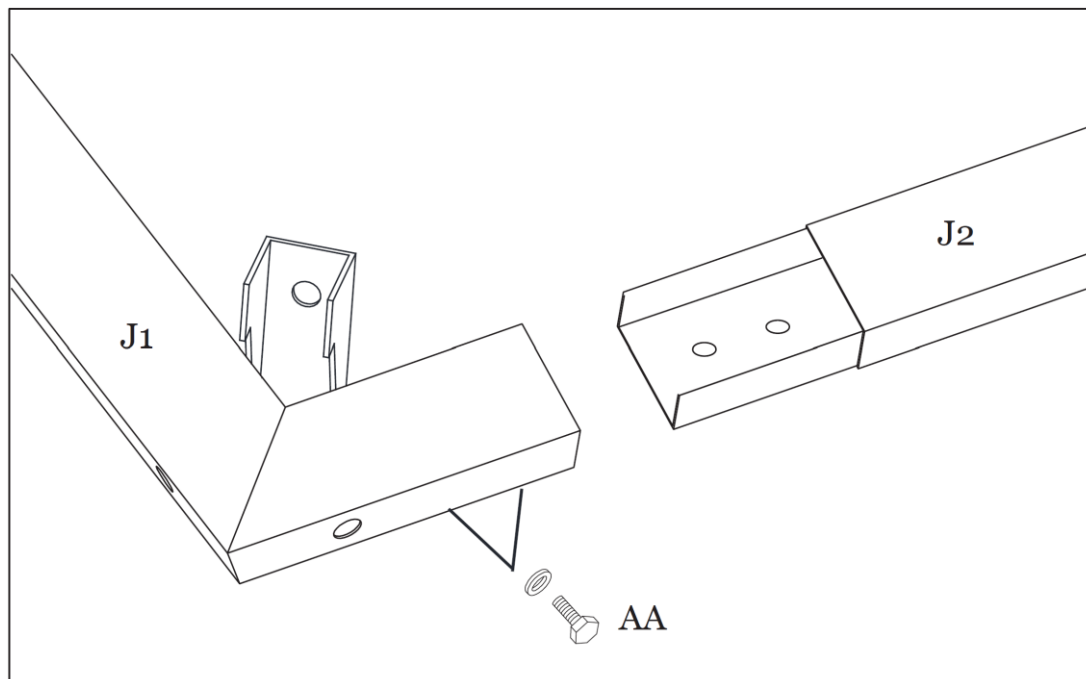
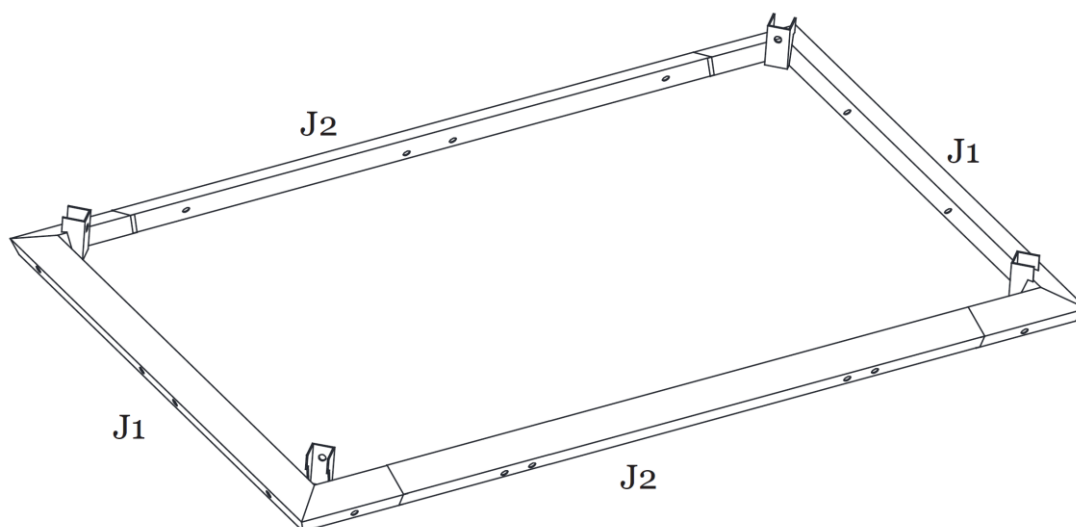

Figure 7-1
Figure 7-2
Step 7: Assemble the Main Roof Center Frame by inserting the Long Connector (J2) into the Short Connector (J1) and attach using Bolts (AA). See Figure 7-1. Repeat for opposite side. **Tighten all Bolts.** See Figure 7-2.